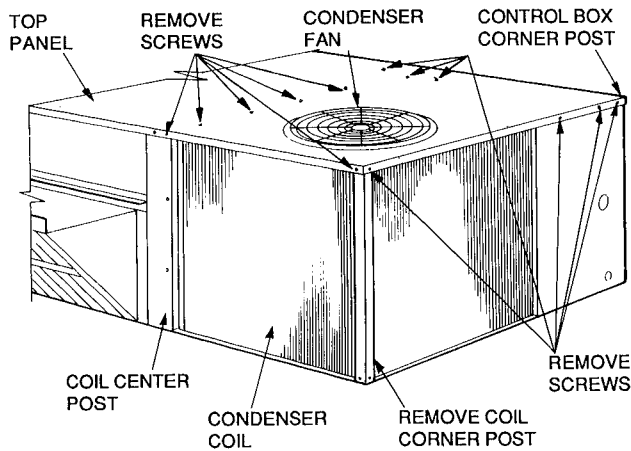
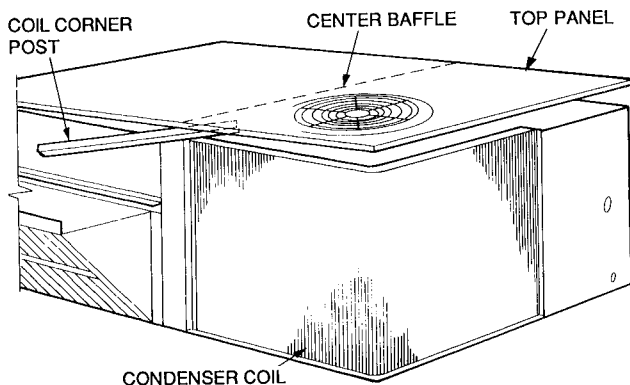

Fig. 30 — Cleaning Condenser Coil
Fig. 31 — Propping Up Top Panel
3. Remove condenser coil corner post. See Fig. 30. To hold top panel open, place coil corner post between top panel and center post. See Fig. 31.